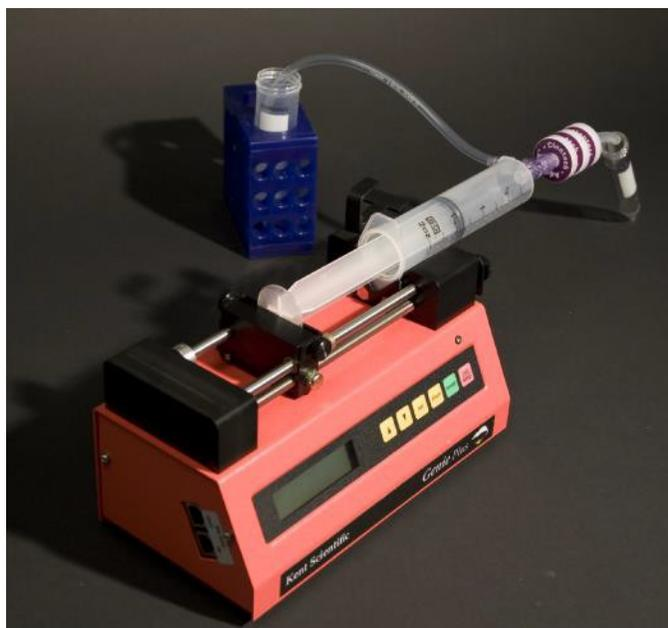

Figure 3. Placement of the Adeno-X Purification Assembly on an infusion pump. A pump from Kent Scientific is shown, but any infusion syringe pump will work.
1. Attach the syringe to the pump, with the barrel of the syringe in the Syringe Block and the plunger connected to the Pusher Block (Figure 3).